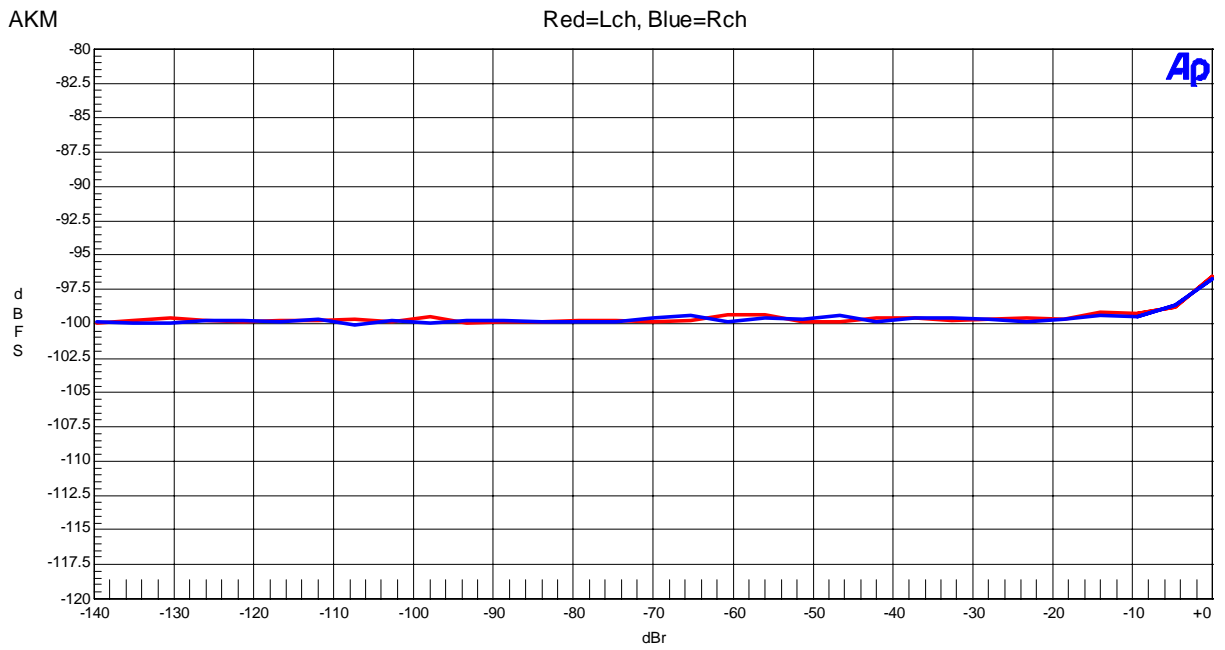

Figure 10 THD + N vs Amplitude (fin=1kHz)
- Figure 10 THD+N vs Input Level (fin=1kHz)